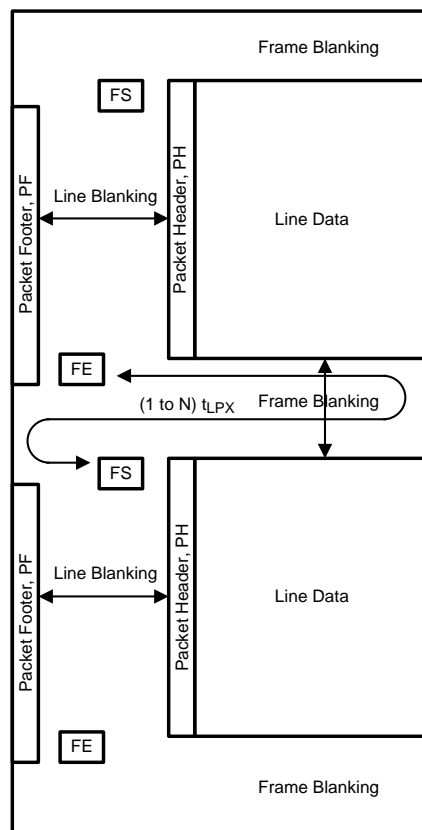

Figure 10. General Frame Format
The DS90UR910Q (in default mode) takes the RGB data bits R[7:0], G[7:0] and B[7:0] defined in the 24-bit serializer pinout and directly maps to the RGB888 color space in the data frame. The DS90UR910Q follows the General Frame Format as described in Figure 49 of the CSI-2 standard (repeated here in Figure 10). Upon the end of the vertical sync pulse (VS), the DS90UR910Q generates the Frame End and Frame Start synchronization packets within the vertical blanking period. The timing of the Frame Start will not reflect the timing of the VS signal.